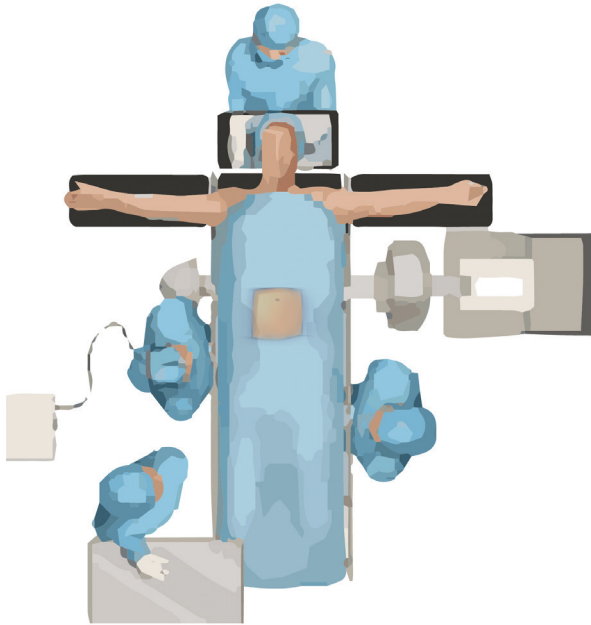

Figure 1
- Perform the customary approach for an ALIF as chosen by the surgeon (Figure 1).